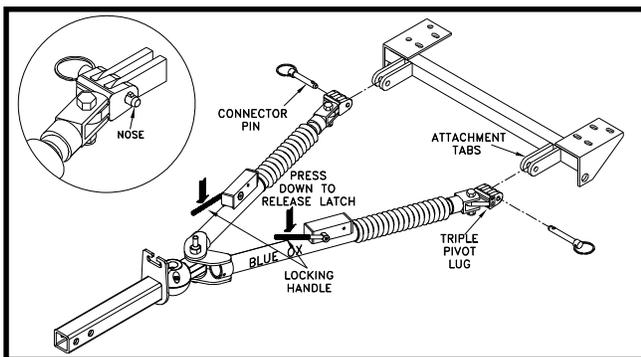

Figure 5
3. Partially extend one leg. The legs are held in with an internal "soft" latch. Pulling out on the leg will disengage this latch. Place the triple lug between the attachment tabs on the baseplate, and secure with the 1/2 pin. See Figure 5. Be sure to place the quick pin assembly **correctly** through the hole in the end to lock it in place. Rotate ring towards nose to lock. See Figure 5. Repeat for both legs.
2. Disengage the leg latches by pushing down on the locking handles. (Figure 5) Remove the quick pins and 1/2 pins attaching the triple lugs to the attachment tabs. You may need to tap the 1/2 pins out if there is still pressure on them. Compress both legs completely until they lock in place.